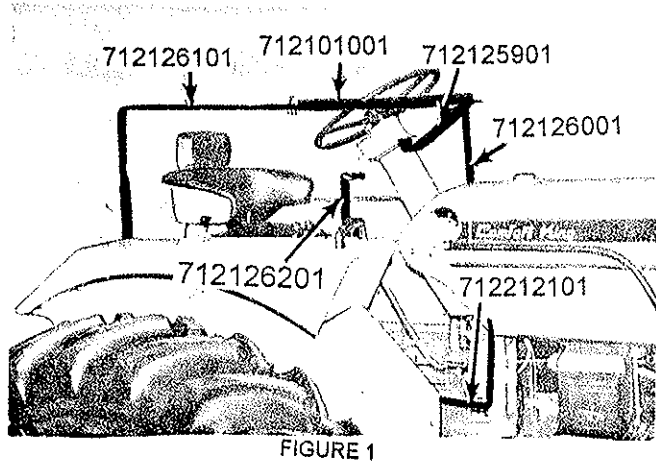

FIGURE 1
1. Bolt #712212101 pedal guard to platform on right side using 5/16" x 1" bolts. See Figure 1.
3. Bolt #712125901 mounting bracket to steering post using U-bolt. See Figures 1 & 2.
4. Thread #712126101 side arm into wide hem on right hand side of vinyl. Also insert #712101001 yoke in front top hem. Bolt yoke and side arm together using 3/8" x 1 1/2" bolt. See Figure 1.
8. Bolt #712126201 door latch to left fender. For Row Crop models remove third bolt from back of platform. Drill extra hole in fender using door latch as template. See Figures 1 & 2.